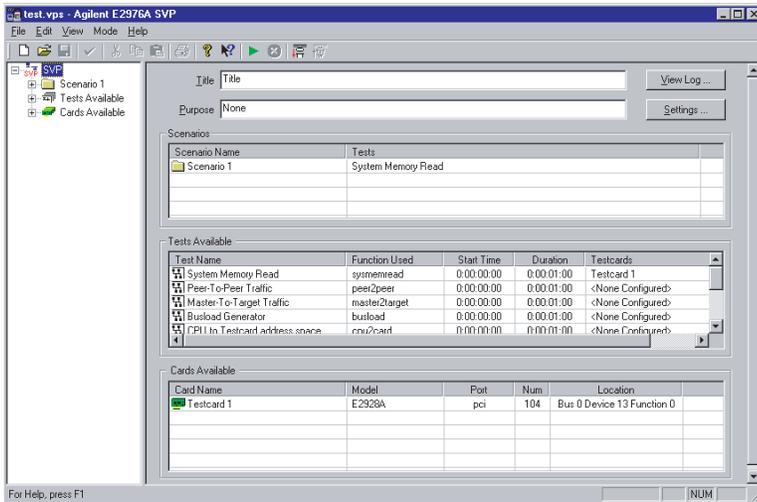

Figure 2
2. Run the SVP software. The software automatically scans all connected PCI and PCI-X busses and other control interfaces (RS-232, USB, Fast Host Interface) for Agilent test cards and initializes them. The main window of the SVP GUI now looks as follows (fig 2):